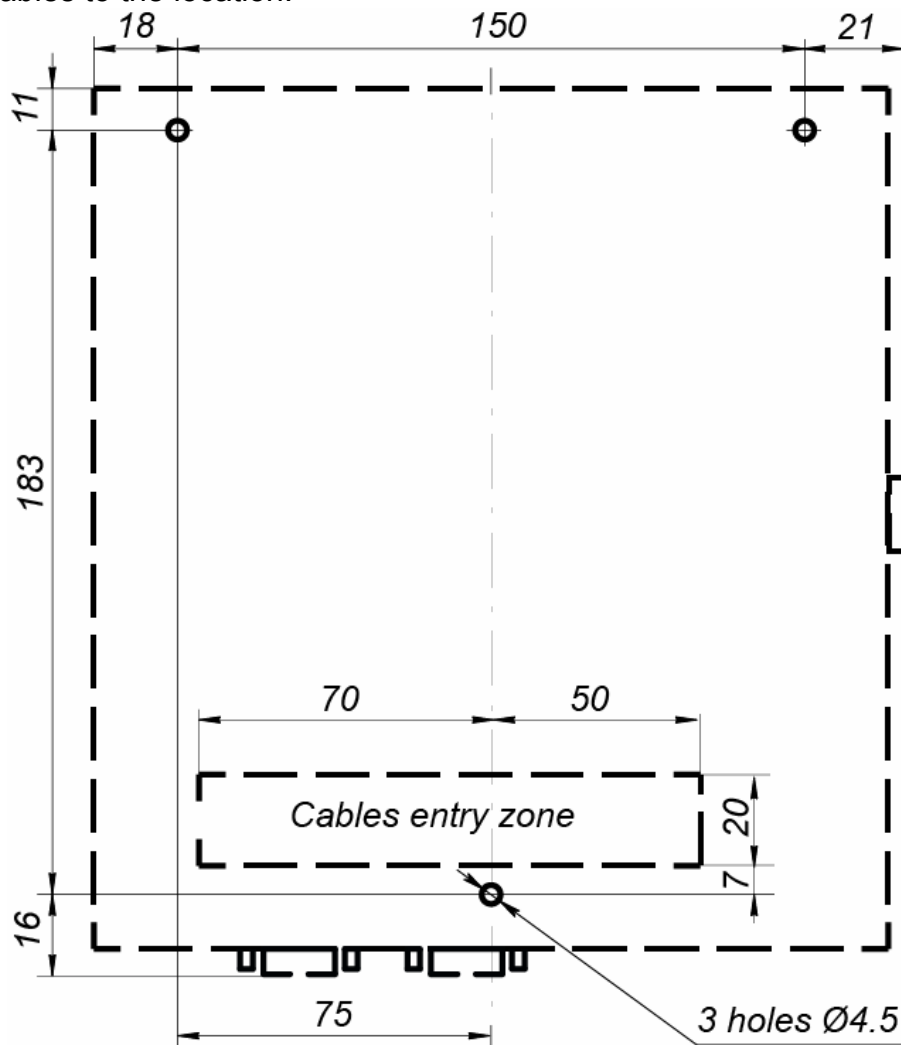

Figure 3. Marking of holes for the controller installation
3. Mark and drill holes in the surface to install the controller and connect cables in accordance with Figure 3. Lay and mount communication cables, power cables and *Ethernet* cables to the location.